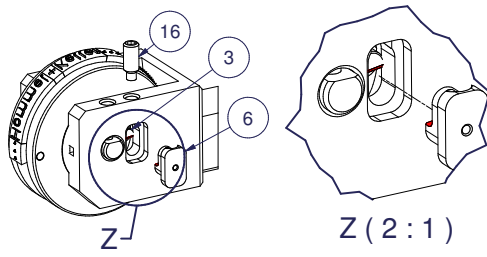

Figure 9: Installation of the stop pin
After the complete carrier unit was installed and fixed, it must be pre-tensioned with one rotation. Then, ensure that the surface of the fixed stop pin (Fig. 9, pos. 3) is flush with the surface of the stop (Fig. 9, pos. 6). Then, fasten with the threaded pin (Fig. 9, pos. 16).